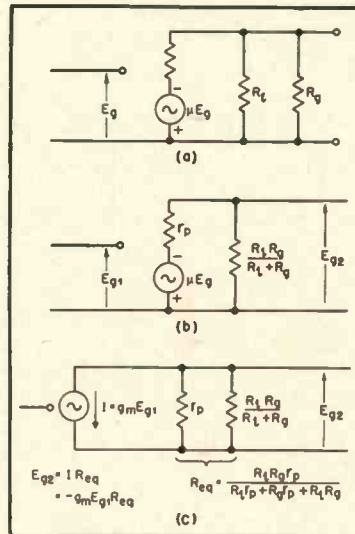

Figure 2
capacitor is chosen so that its reactance is small even at low frequencies, and that the load resistor  $R_L$  is small compared with the reactance of the capacitances in the output. Finally, the cathode bypass capacitor is selected so that its reactance will be very small at the lowest desired frequency. These original design requirements indicate possible simplifications of the circuit to enable the development of mathematical expressions for operation in the middle frequency region. This equivalent circuit for the mid-frequency band is shown in Fig. 2. The equations may be obtained by applying Kirchhoff's law and Ohm's law to the loop. However, we have now reduced the circuit to the generator impedance in series with a pair of resistors in parallel. This permits an even simpler solution if we transpose the source to a current source. This is done at (C) in Fig. 2. The result is now obtained in one step.